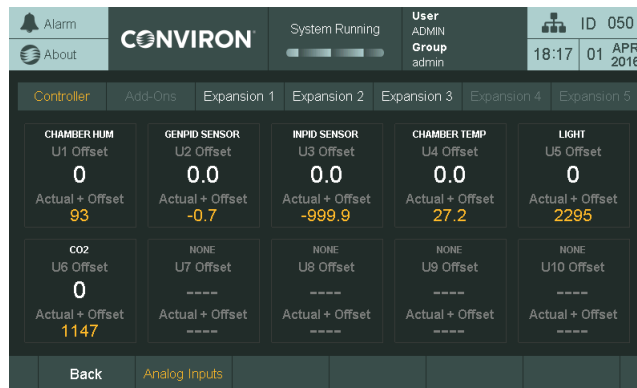

Figure 10-4 Input Offset Screen
3. Tap on any analog input zone. **The Analog Offset** screen appears (Figure 10-4).